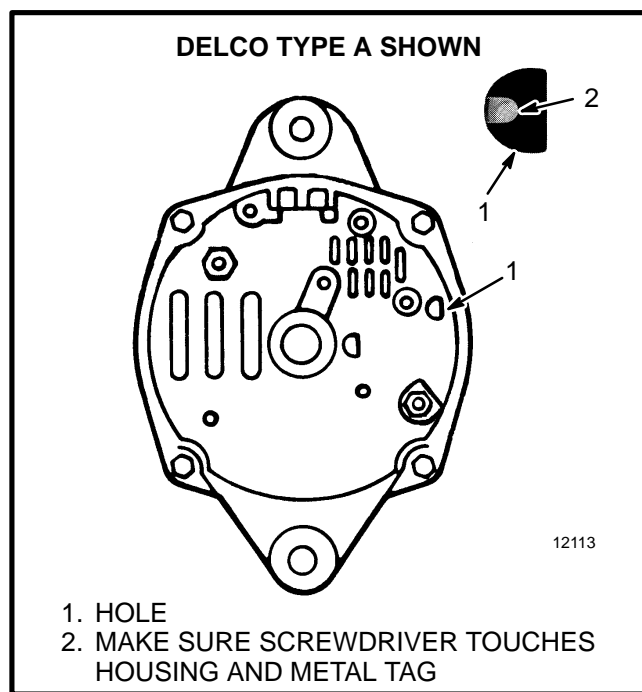

FIGURE 11. ELECTRICAL GROUND ON THE FIELD WINDING
- a. If the output shown is not within 10%, put a screwdriver into the hole shown in FIGURE 11.